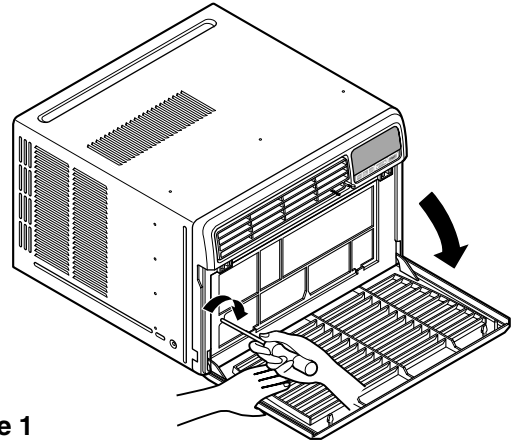

Figure 1
2. Remove the screw which fastens the front grille.(See Figure 1)